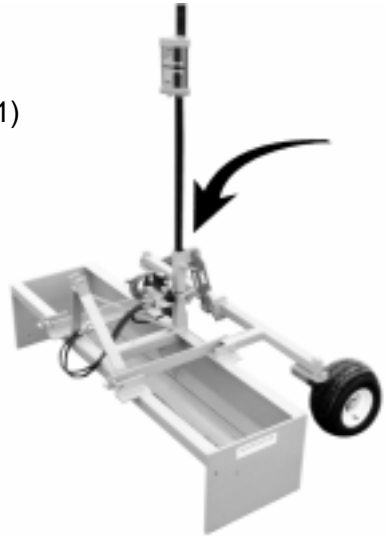

Figure 1.1
- Insert Mast into GRADEMASTER. (Figure 1.1)